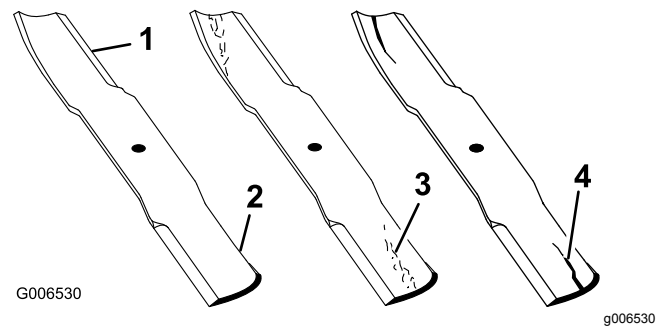

Figure 96
1. Inspect the cutting edges (Figure 96).
4. If you notice any cracks, wear, or a slot forming in this area, immediately install a new blade (Figure 96).